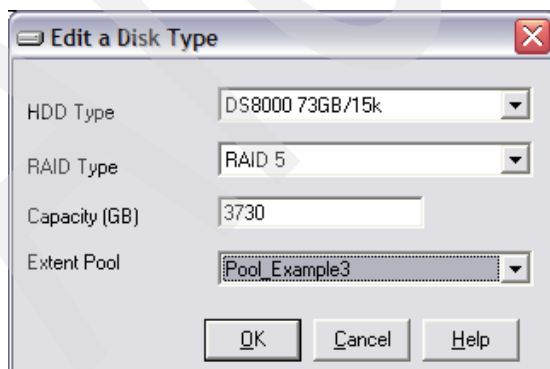

Figure 4-84 Planned number of ranks
- g. In the Edit a Disk Type panel (Figure 4-84), enter the capacity that corresponds to the desired number of ranks for Capacity. Observe that 73 GB 15 KB rpm ranks are already inserted as the default for HDD Type.